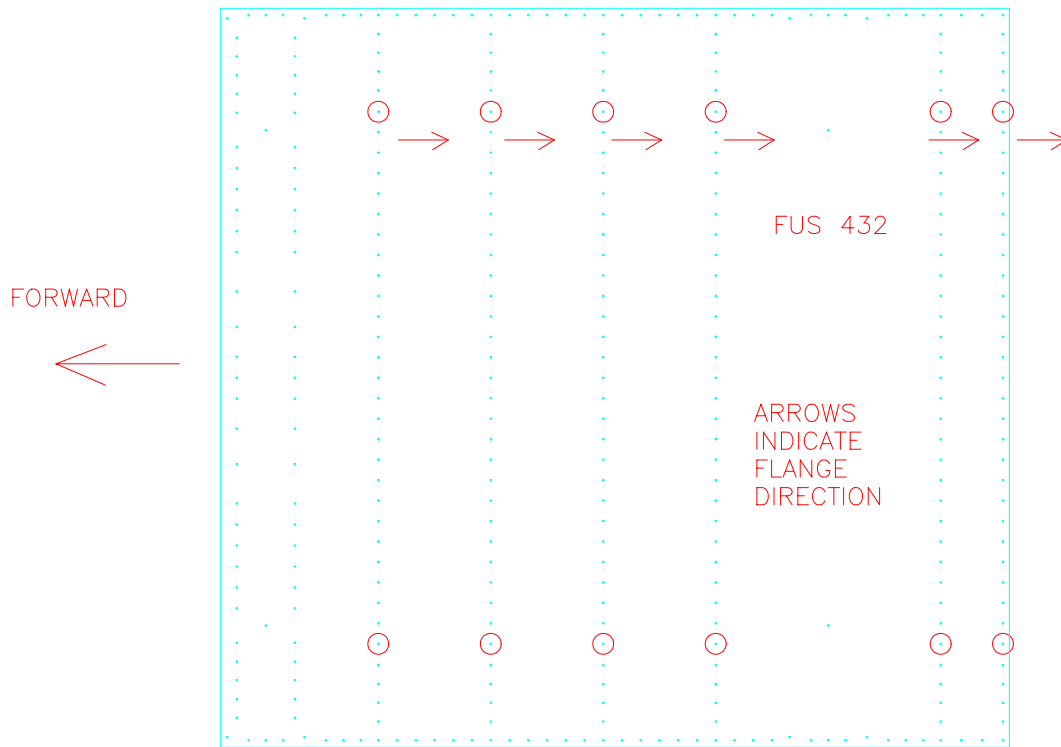

Figure 9.6.1
1) Prepare an R-Bulk 1 assembly for Station 3. Draw centerlines on the outside flanges of the two R-Bulks that will make up the Bulkhead for Station 3. Cleco it into position on the floor (FUS-432). Circled rivet holes in Figure 9.6.1 indicate where the Bulkhead key holes cleco into place. **NOTE:** A bulkhead assembly goes at station 7 with the same flange direction as the rest.